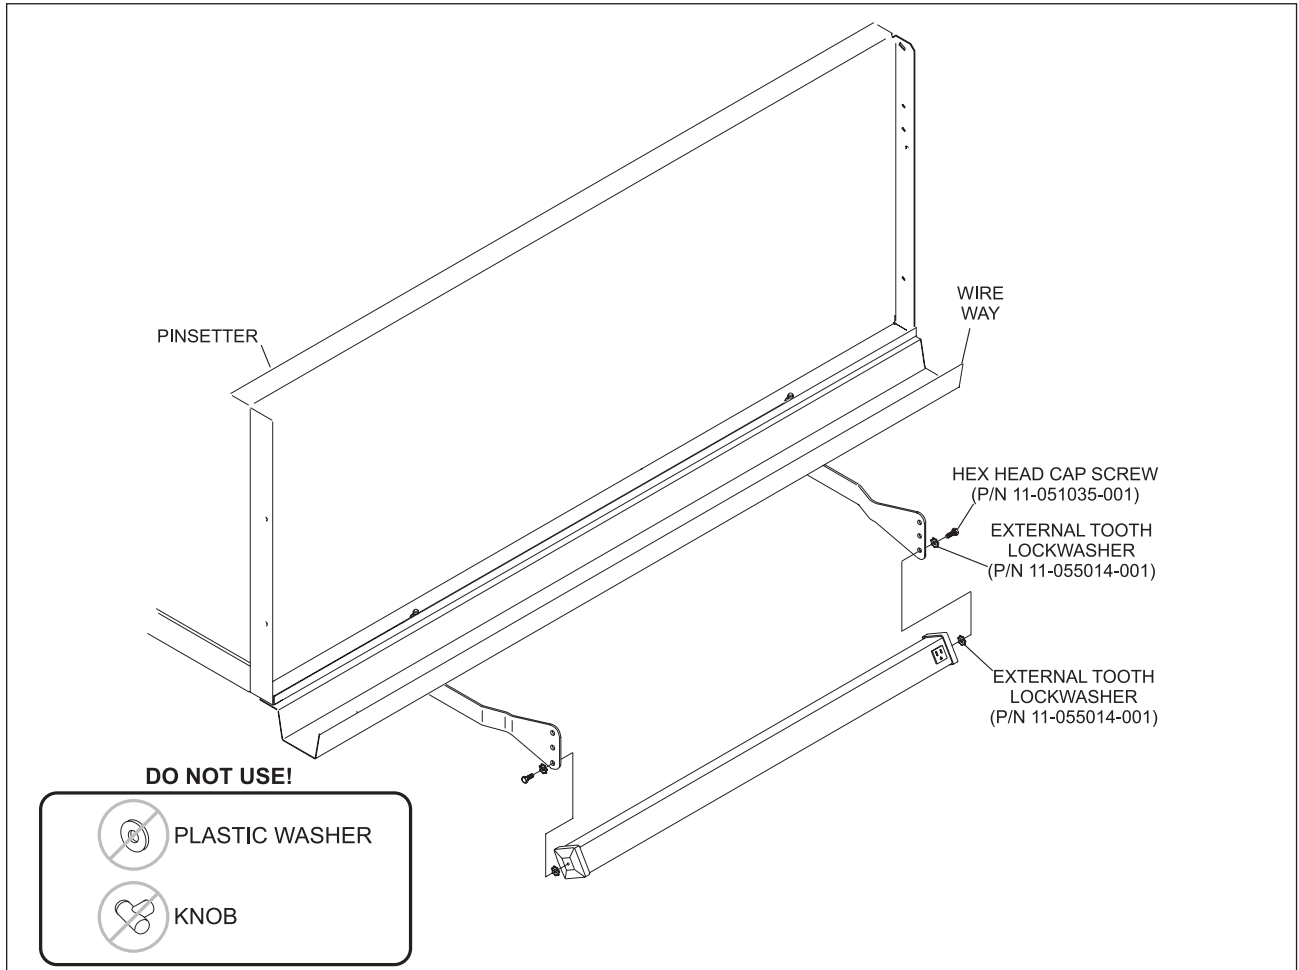

Figure 7
1. Loosely attach Pin Deck Light to brackets with (1) M6 Screw and (2) External Tooth Lockwashers on each end of the light. Refer to *Figure 7*.